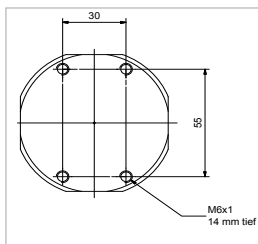
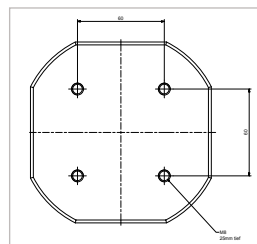

Figure 3
Figure 4
- Optionally, the T-Filter can be attached at any position via the 4 bores. To do this, fasten the T-Filter according to the hole pattern (*Figure 3* and *Figure 4*).